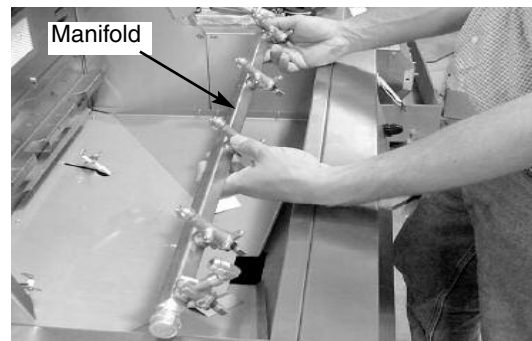

Fig 18
17. Remove manifold from grill body (See Fig. 18)